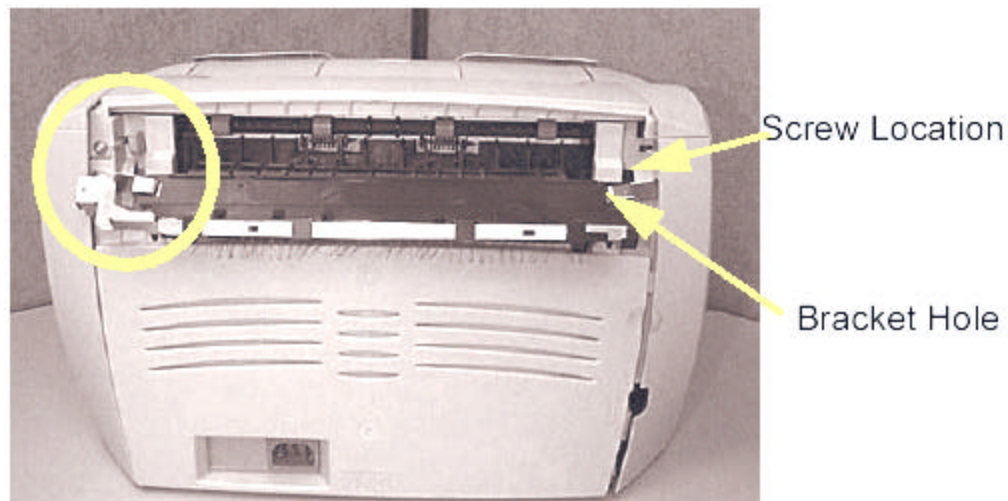

Figure 6. New Installed Paper Delivery Diverter
5. Add and tighten first the left then the right screw. Do not over tighten the screws. Figure 6 shows the New Paper diverter installed correctly. Make sure the green levers are in the up position.